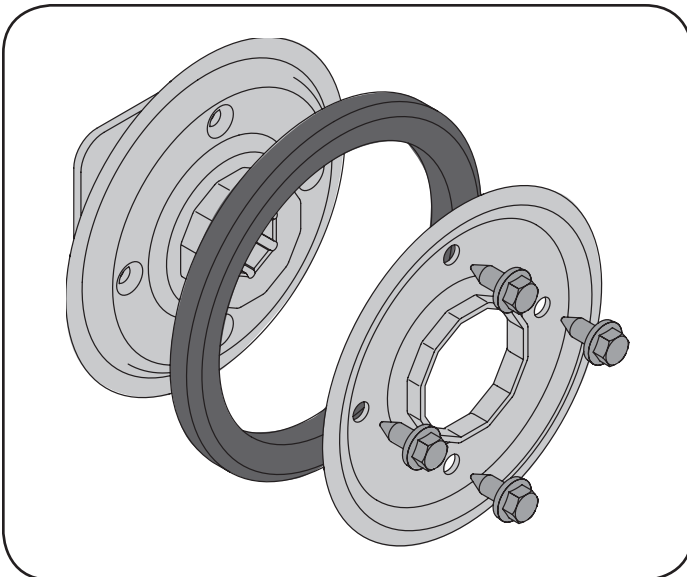

Figure 36
- Remove the four screws which secure the friction wheel's side plates together. See Figure 36.